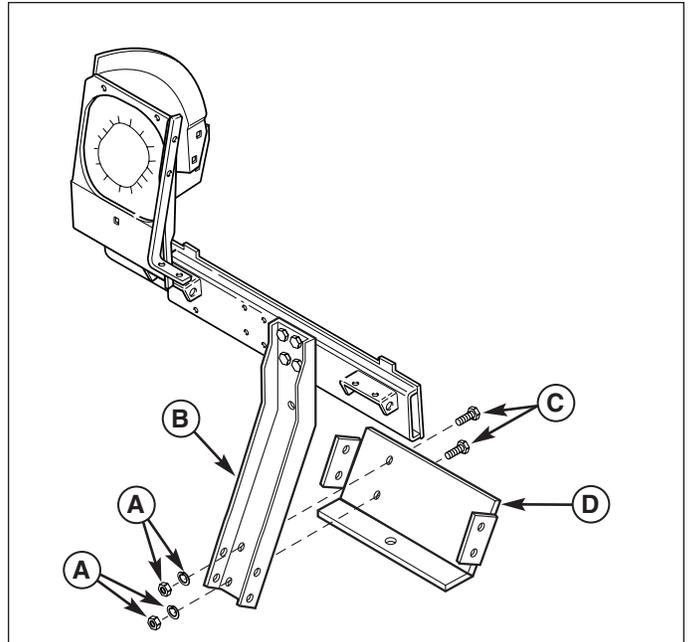

Figure 6. Assemble Catcher Frame (Prestige Shown)
3. Bolt the lower support plate (D, Figure 6) to the upright support (B) using two 3/8-16 x 1 capscrews (C), lockwashers, and 3/8-16 nuts (A).